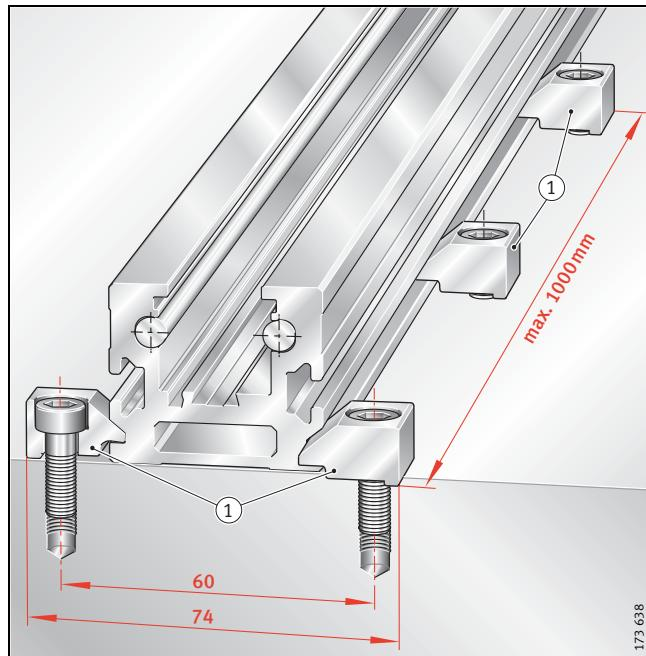
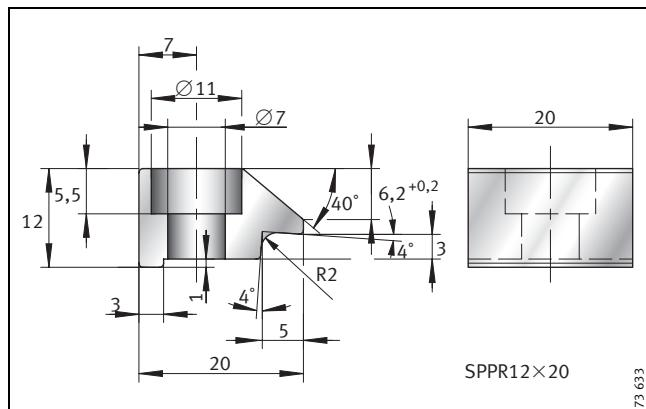

Figure 6 · Clamping lugs for locating the support rails
Figure 7 · Clamping lug
Clamping lugs are available to locate the actuators (Figure 6 and Figure 7).
The clamping lugs are used to fix the support rails to the adjacent construction (Figure 6, ①). This fixing method is easy to use and very economical.
If the support rail is fully supported over a maximum length of 1 000 mm, at least 3 clamping lugs must be fitted on each side of the rail (Figure 6, ①).